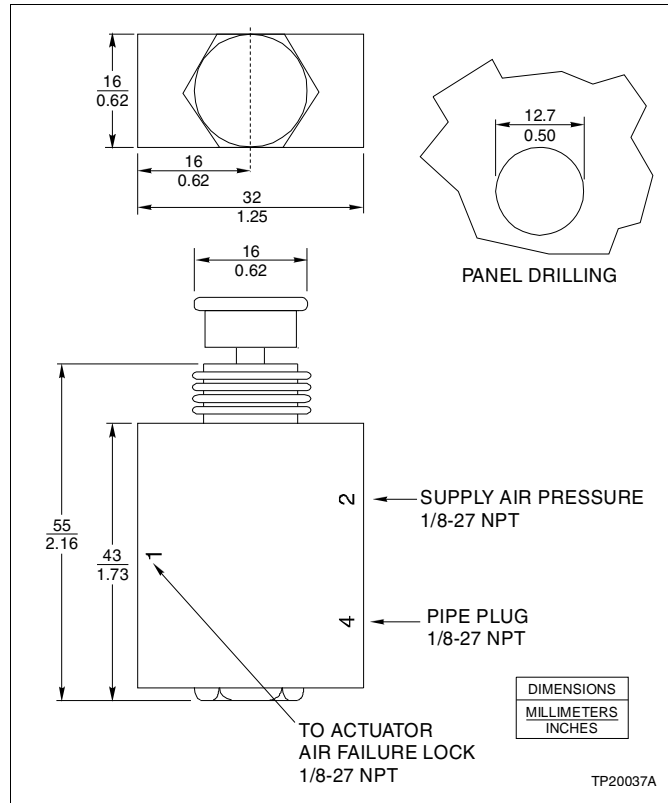

Figure 3-14. Reset Switch for Air Failure Lock (Part Number 19515895_1)
- **Remote Reset.** The air failure lock remains tripped until deliberately reset via a reset switch as supplied (shown in Fig. 3-14) or a normally closed solenoid valve (not supplied).
2. Install the reset switch in a suitable location. Refer to Figure 3-14 for the dimensions.